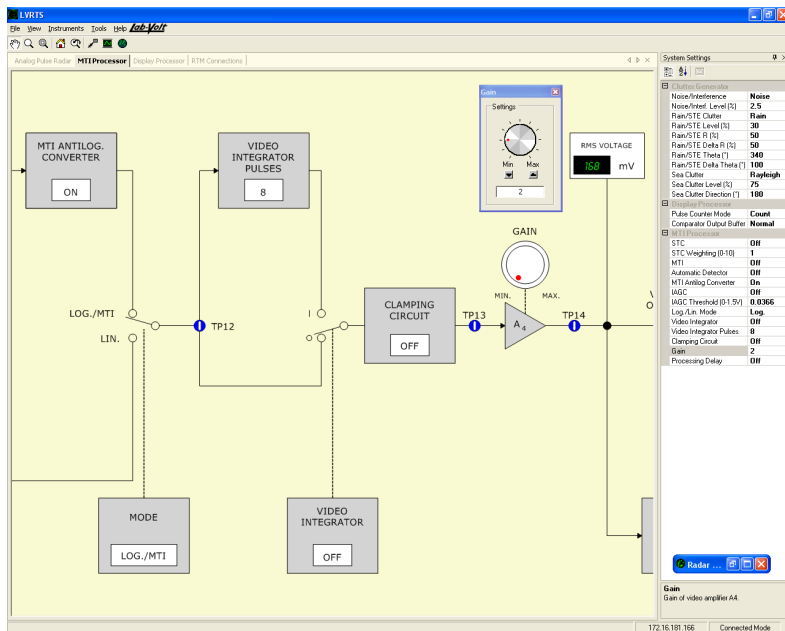

Figure 3. Computer-based control of the radar processing functions and operating parameters.
- Select the radar processing functions and adjust other parameters of the radar, such as the video gain, detection threshold, etc. (see Figure 3)